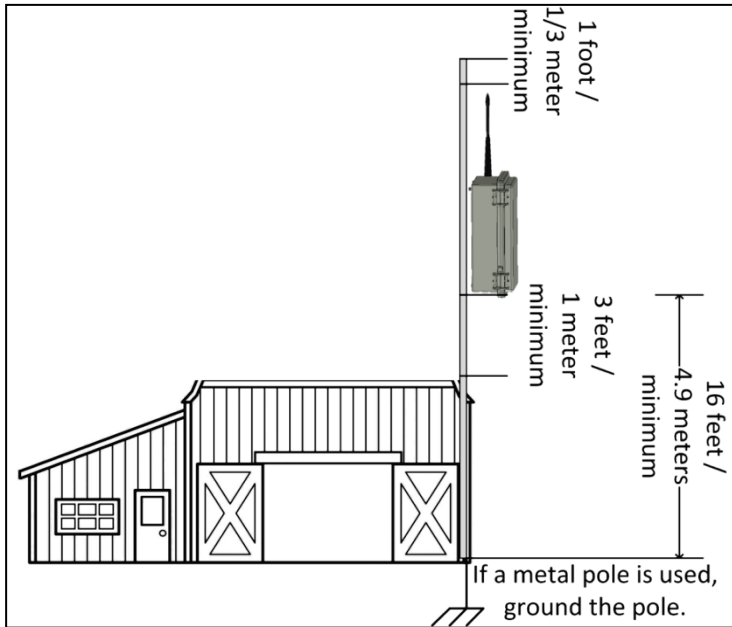

Figure 16: Lightning rod setup
- Antenna pole (refer to Figure 16):